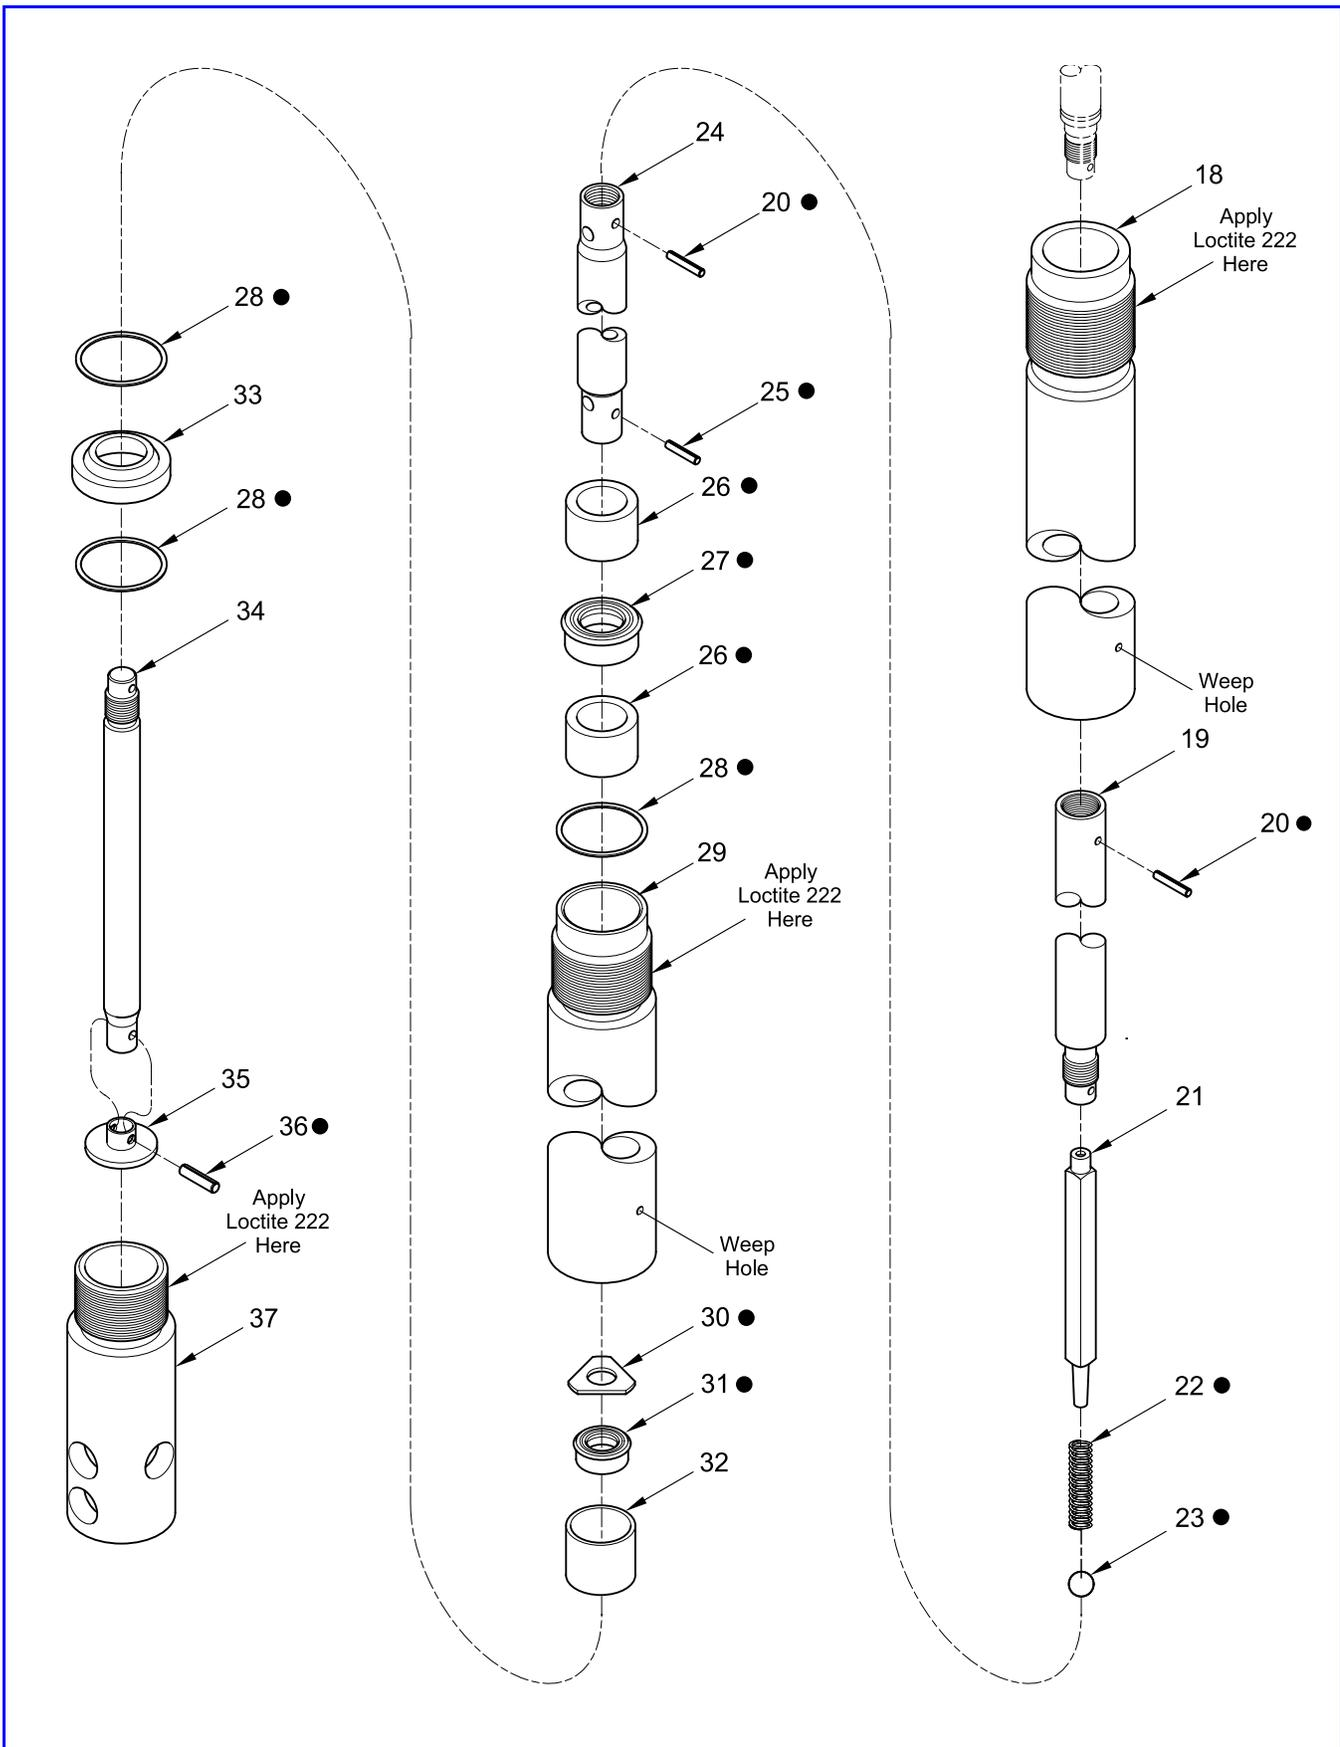

Figure 2-B High-Pressure Grease Pump Model 9911-1 and 9950-1 - Exploded View (Sheet 2 of 2)
The major components of these stripped pump models consist of an air-operated motor that connects directly to a double-acting reciprocating pump tube. The pump tube is equipped with a dynamic primer. See **Figure 2-B**.
NOTE: Refer to **Figures 2-A** and **2-B** for component identification on all overhaul procedures.
6. Remove Nut (2) and Washer (3) that secures Air Piston (4) to Rod (9).
- Place a punch or similar tool into the Rod to prevent its rotation. See **Figure 2-A**.
7. Remove Quad-Ring (5) from the Air Piston.
8. Remove O-Ring (6) and Washer (7) from the Rod.